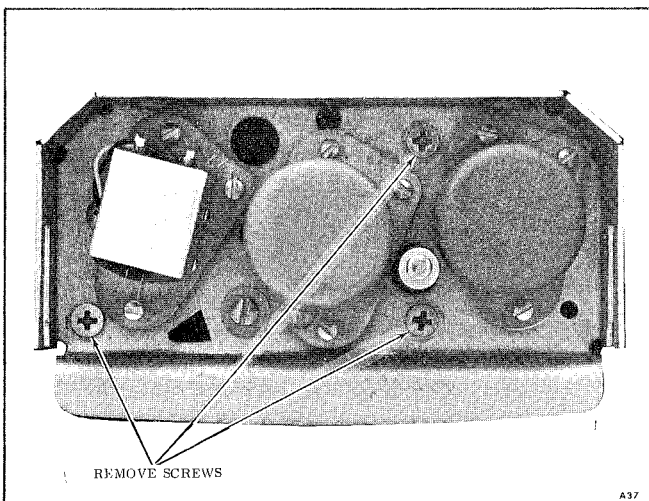

Figure 5-8. Head Assembly Removal
5.39 HEAD ASSEMBLY REMOVAL (See Figure 5-8)